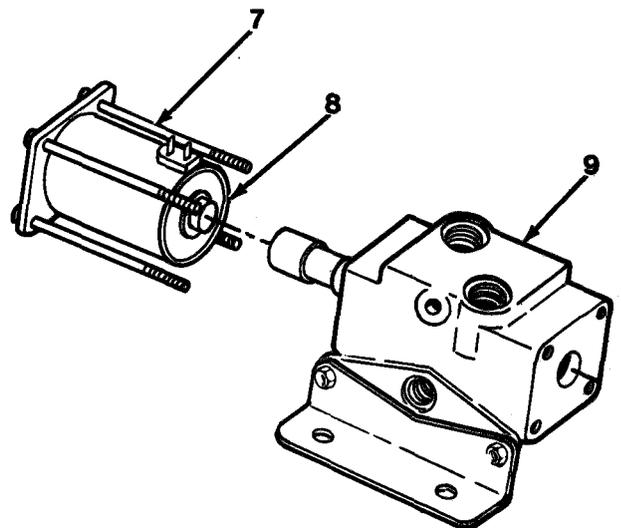

Figure 13-2
6. Install two solenoid coils (8) to case and tube assemblies (9, Figure 13-2).
7. Install eight screws (7) to case and tube assemblies (9).